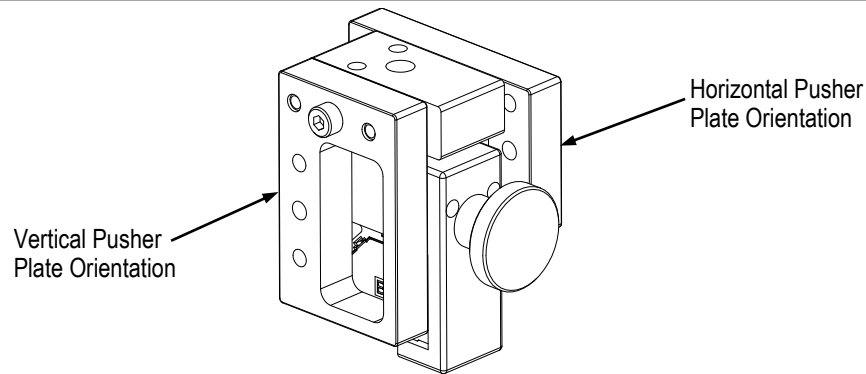

Figure 2
3. Determine if shims are necessary and install as needed. See Figure 2 for shim placement.
Refer to Figure 2 for pusher plate orientation.